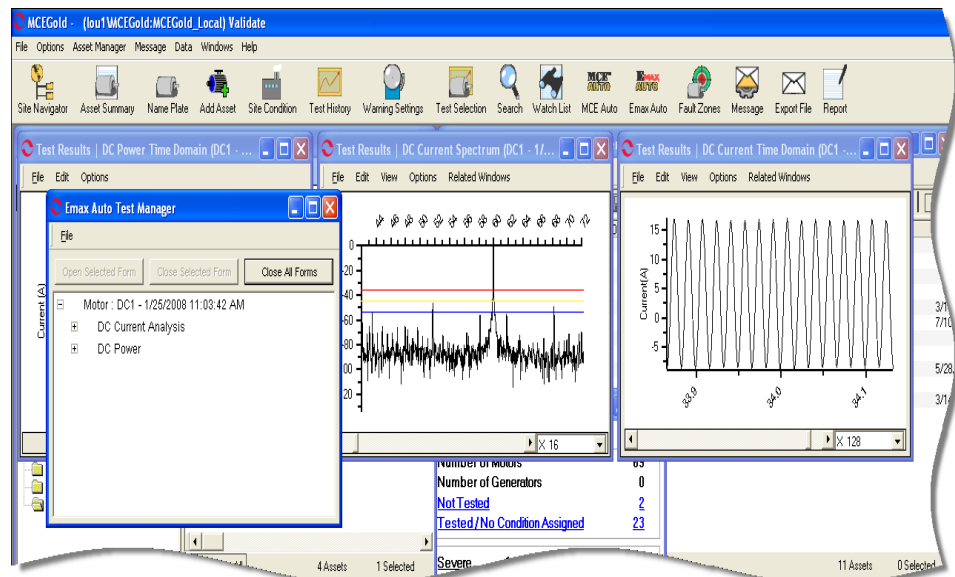

Figure 6-32: EMAX Auto Test Results
16. At the end of testing you will be informed the test data is being saved and the forms loaded. It may take a few minutes depending on the speed of your computer processor. Then the three test results windows chosen during the test setup and an EMAX Auto Test Manager window will open. See Figure 6-32.